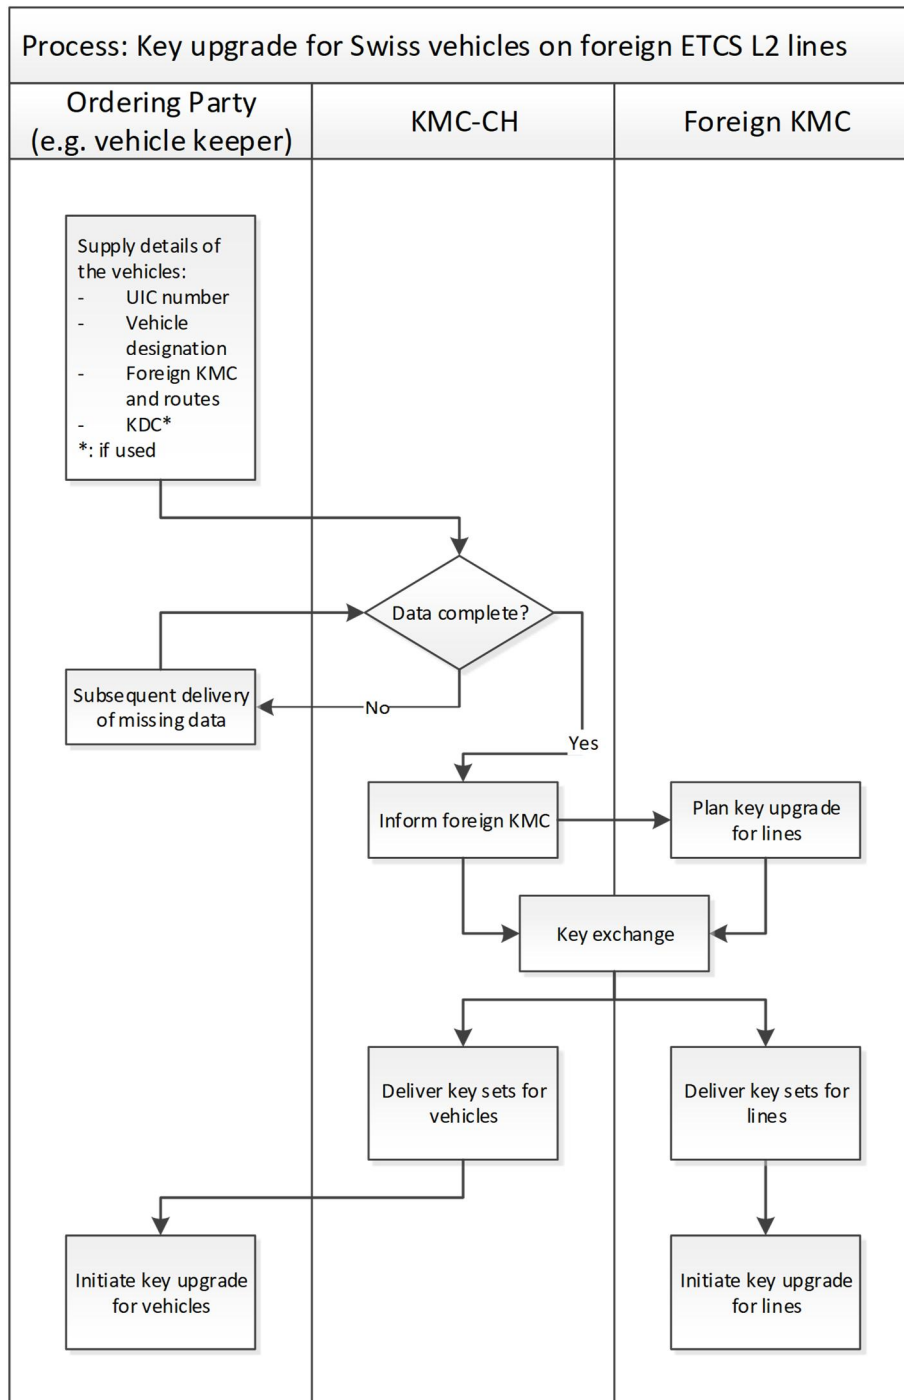

Figure 2: Swiss vehicles on foreign lines
4.1.1.2 Figure 2 shows the key upgrade process in this case: